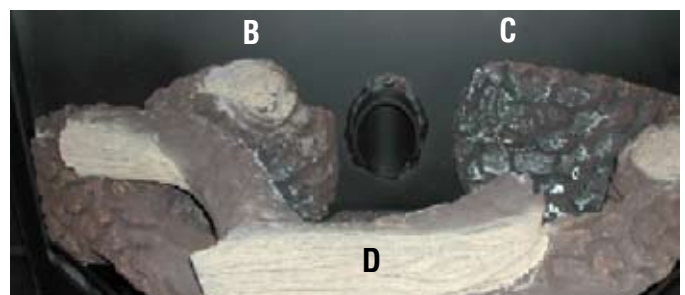

Figure 41
3. Remove the ceramic logs from the box and carefully unwrap them. Position each back log (Figure 41, B, C) in their proper place, one on each side against the back of the firebox.
4. The front log should face the front of the firebox with the woodgrain showing. It should rest on the other two back logs. See Figure 41 for assembled log set.